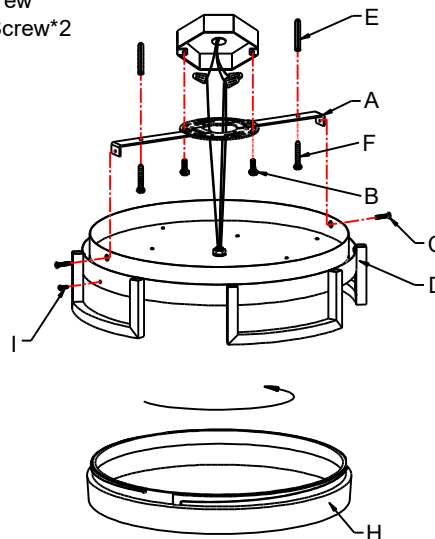

Fig. 2
### CONNECTING THE WIRES (Fig.2)
8. Connect the electrical wires as shown in Fig. 2, making sure that all wire connectors are secured. If your outlet has a ground wire (green or bare copper), connect the fixtures ground wire to it. Otherwise, connect the fixture ground wire directly to the mounting plate (A) using the green screw provided. After wires are connected, tuck them carefully inside the junction box.